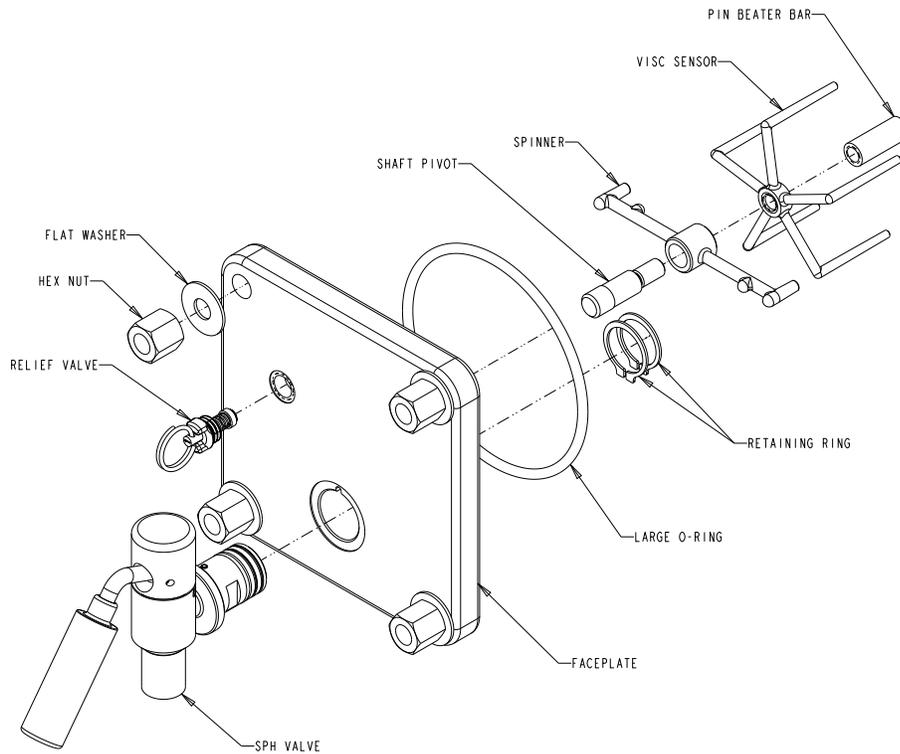

Figure 39.
5.	Disassemble the dispensing valve (see Figure 39).